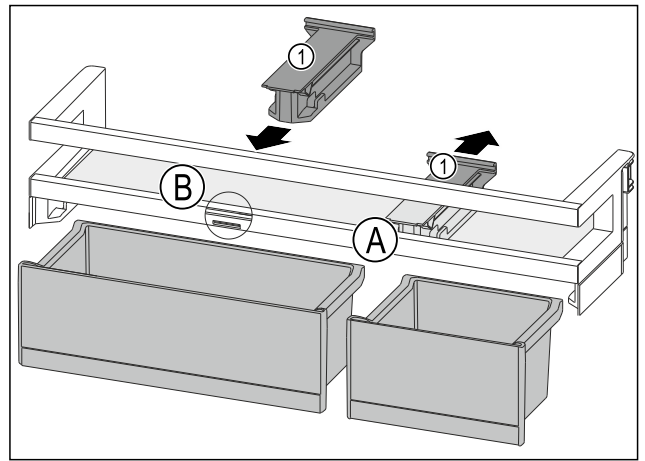

Fig. 152
- Take off the holding part Fig. 152 (1) in position Fig. 152 (A) backwards.
- Insert the holding part Fig. 152 (1) in position Fig. 152 (B).